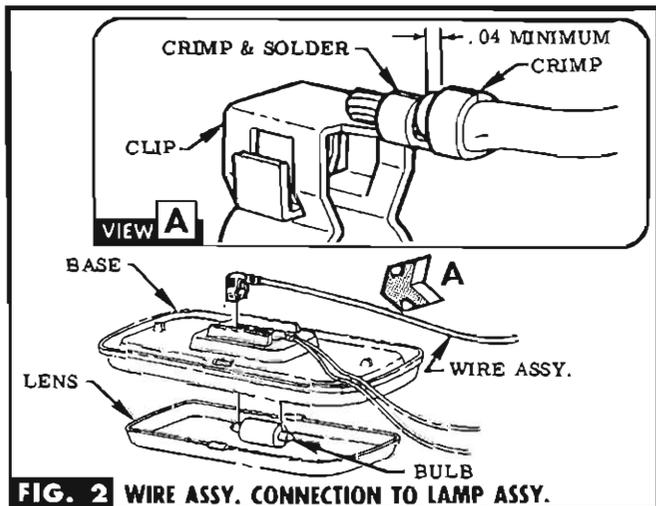

FIG. 2 WIRE ASSY. CONNECTION TO LAMP ASSY.
STEP 1a REMOVE BULB & SOCKET FROM EACH SUPPORT & ALTER SUPPORT AS SHOWN. RE-ASSEMBLE SOCKETS, SUPPORTS & BULBS. SEE FIG. 2. **NOTE** If heater exists, do not alter support for R. H. side.
STEP 2a TAPE JUMPER WIRE & CONNECTOR TO TERMINAL WIRE. SEE FIG. 2.
STEP 3 CRIMP & SOLDER BARE END OF WIRE TO CLIP. SEE VIEW A. REMOVE LENS FROM LAMP ASSY. & INSERT CLIP INTO LAMP BASE THEN INSTALL BULB & REPLACE LENS. SEE FIG. 2.